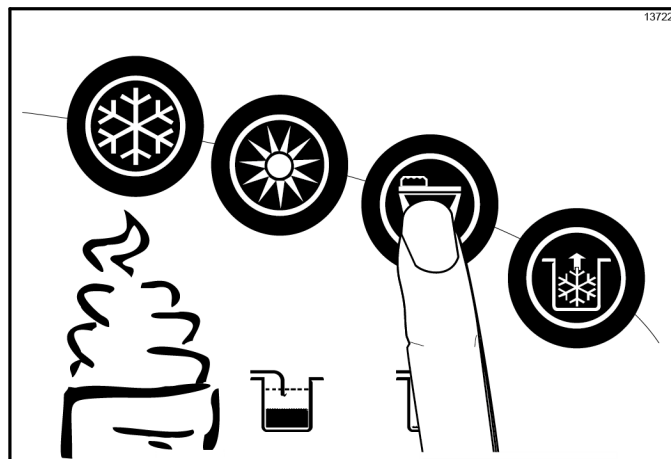

Figure 6-59
2. With a pail beneath the door spout, open the draw valve and press the Wash key . (See Figure 6-59.)